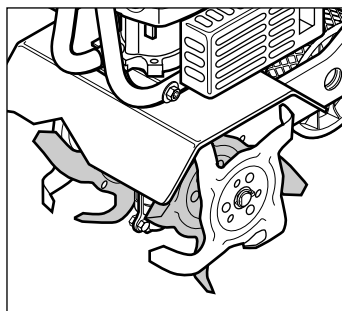

Figure 18: Stony soil tine configuration.
- Reinstall the two outer tine sections on the sides from which they were removed. See Figure 18.